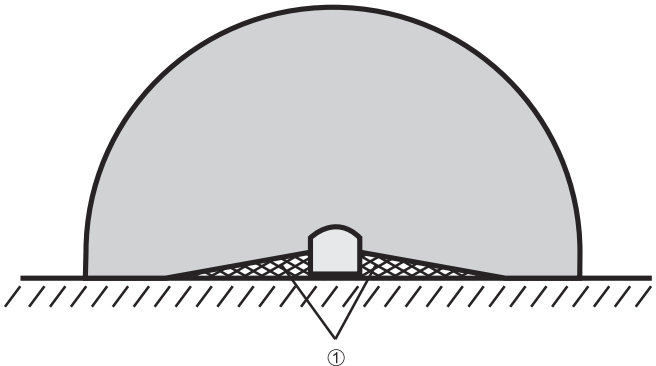

Figure 26: Example of mounting with hard guards
- ➔ Design the recess ① to be sufficiently deep enough that it completely covers the area not protected by the safety laser
scanner (Figure 26) and such that standing in an unscanned area ② is not possible.